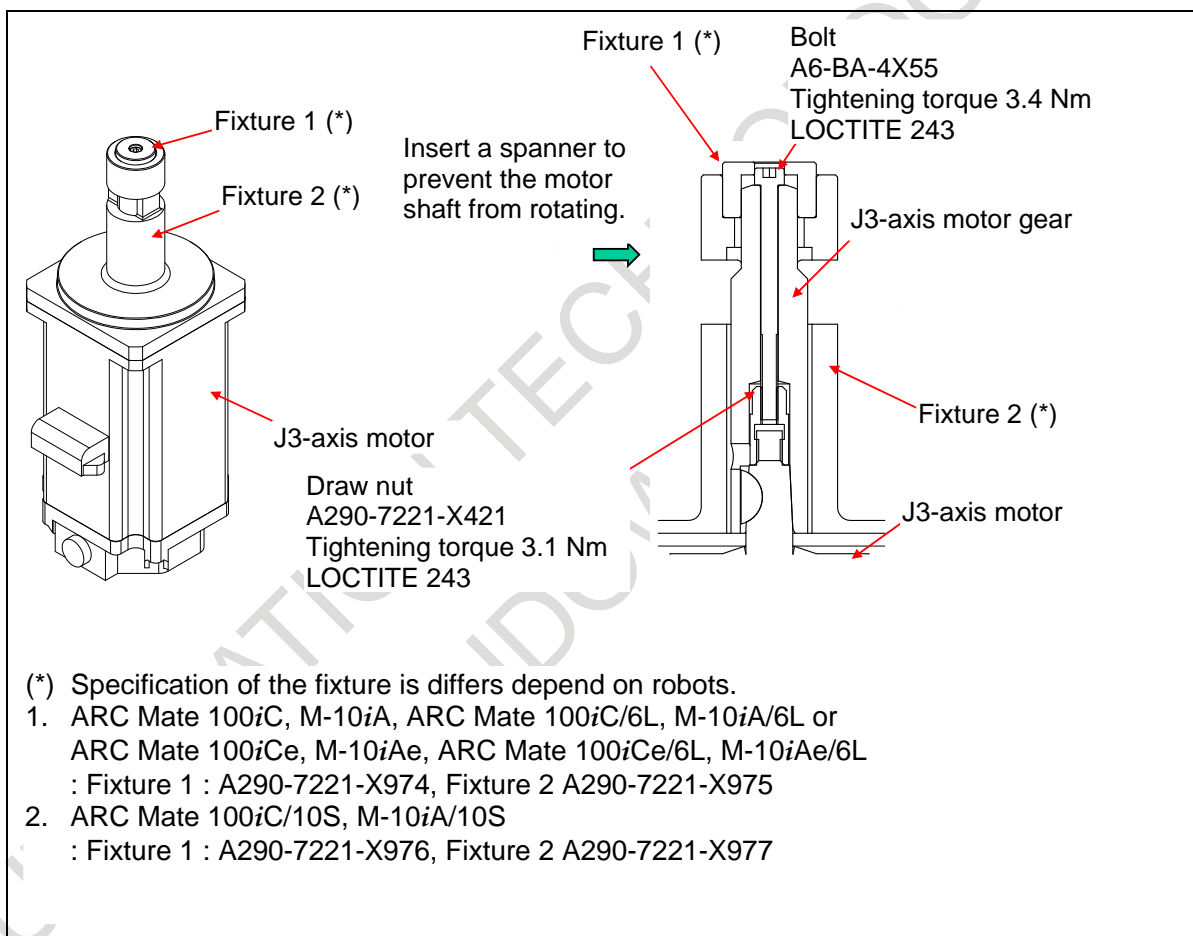

Fig. 6.7 (a) Attaching the gear on the J3-axis motor
- 3 Mount fixture to motor as Fig. 6.7 (a) for centering.